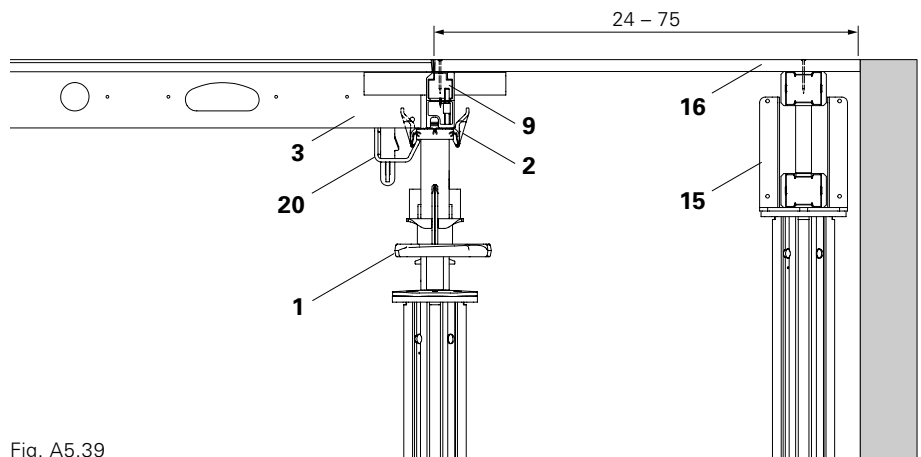

Fig. A5.39
1. Mount the Panel SDP (3) in the Main Beam (2).
2. Insert Edge Beam SRT-2 (9) in the Main Beam.
3. Position additional prop with cross-head (15) and formwork girder.
4. Install formlining (16) and secure with nails. (Fig. A5.39 + A5.40)